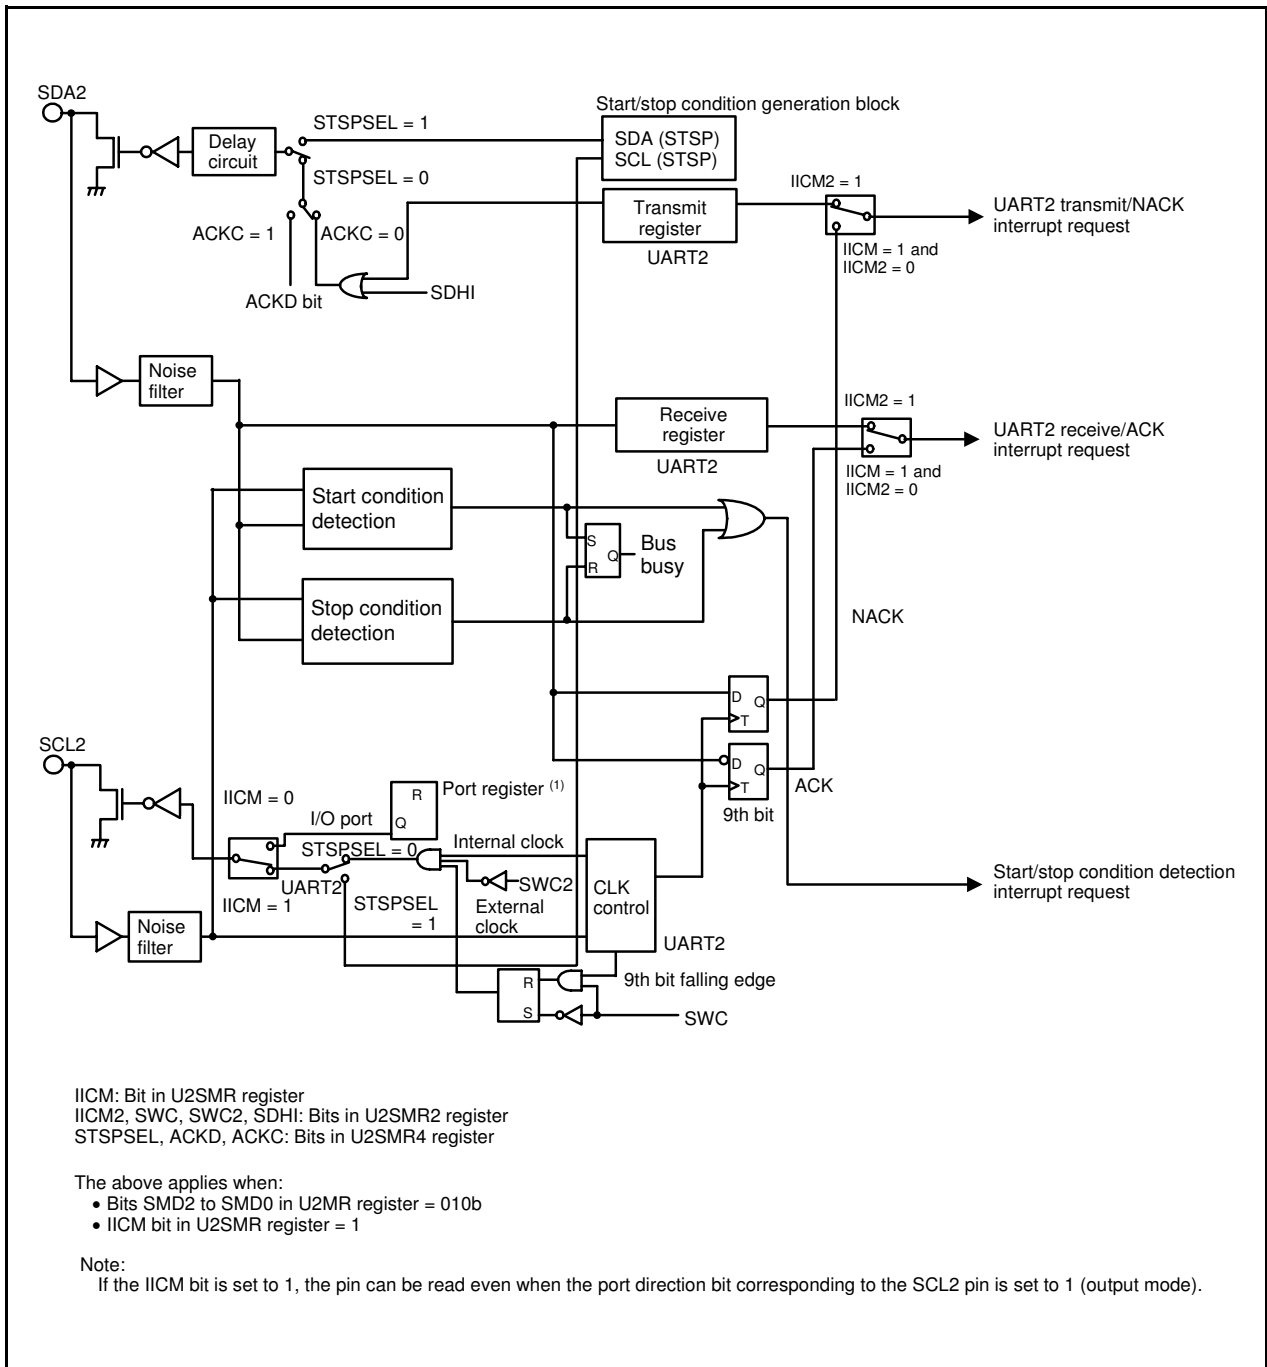
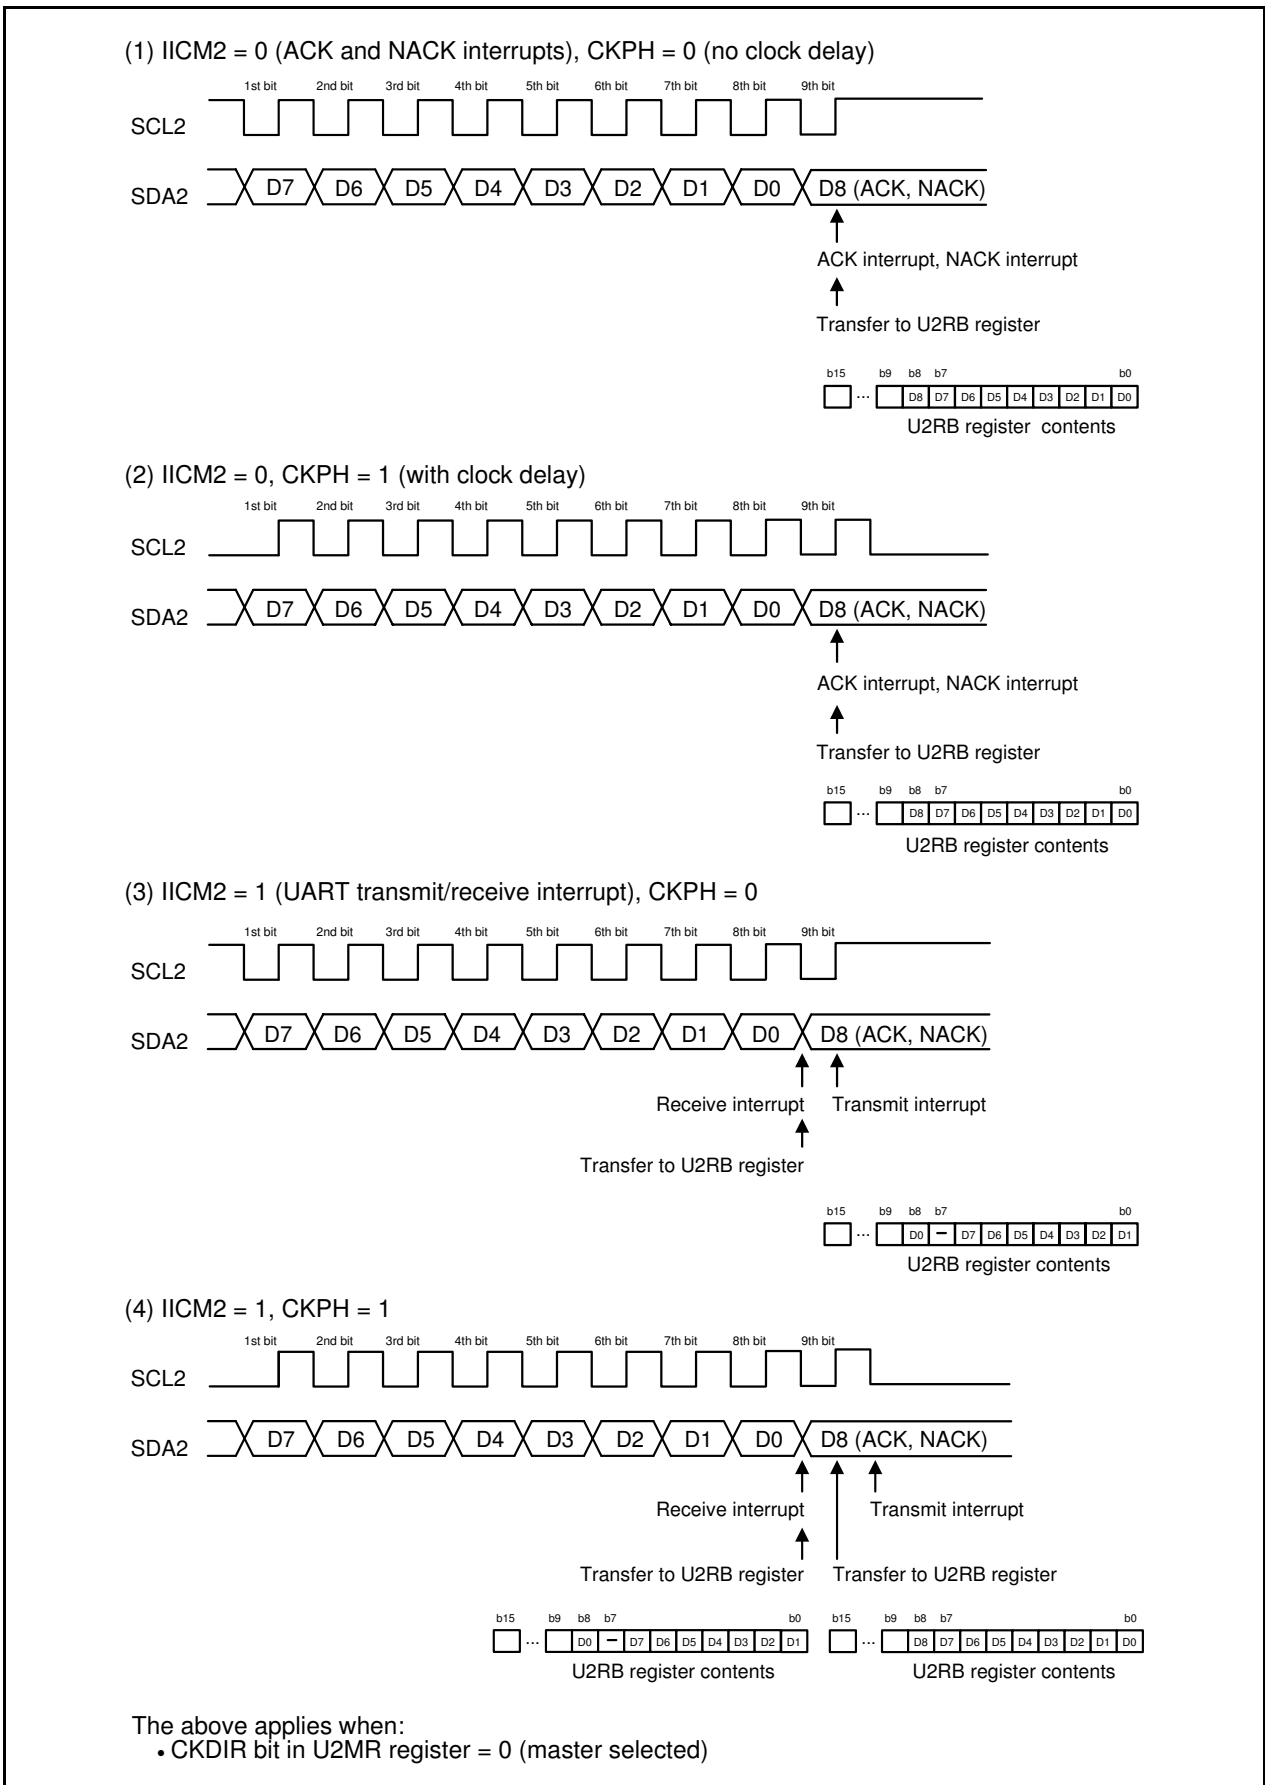

Figure 21.13 I2C Mode Block Diagram
Figure 21.14 Transfer to U2RB Register and Interrupt Timing
I2C mode is provided for use as a simplified I2C interface compatible mode. Table 21.9 lists the I2C Mode Specifications. Tables 21.10 and 21.11 list the registers used in I2C mode and the settings. Table 21.12 lists the I2C Mode Functions, Figure 21.13 shows an I2C Mode Block Diagram, and Figure 21.14 shows the Transfer to U2RB Register and Interrupt Timing.
- Refer to **Figure 21.14 Transfer to U2RB Register and Interrupt Timing**.
The transfer clock is used to transmit and receive data as is shown in **Figure 21.14 Transfer to U2RB Register and Interrupt Timing**.